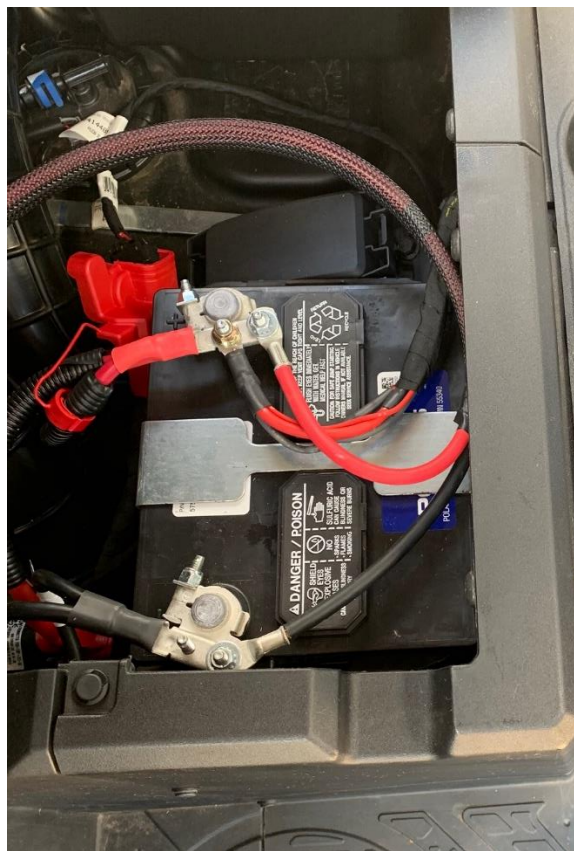

Figure 9: Fold seat forward and remove tray for battery access.
9. Fold the seat forward to access the battery. With the seat folded forward, pull out the passenger side storage tray. See Figure 9.